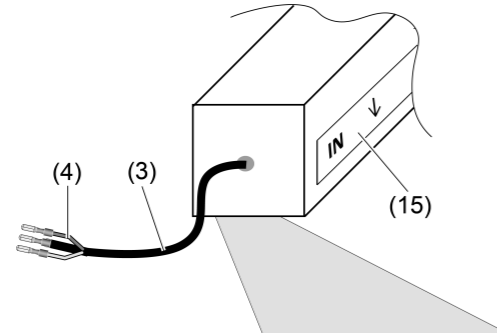

Figure 2: Beam direction of asymmetrical optics
- i When mounting, note that there are two luminaire versions. The label on the luminaire (15) indicates the beam direction and the side on which the input cable is attached (Figure 2).